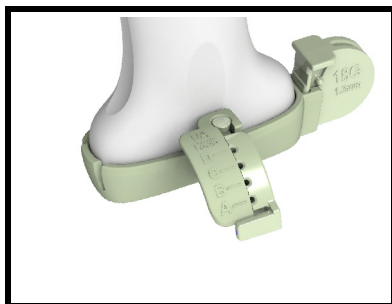

Figure 5. UA1338 mounted on 8L2 (shown here without transducer cover).
- 7 Fig. 5 shows the needle guide mounted on the transducer.